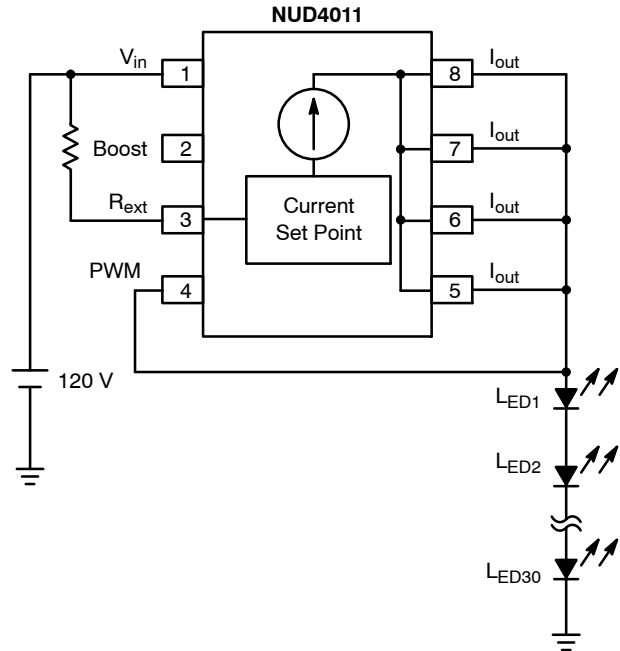

Figure 5. 120 V Application (Series LED's Array)
3. Device's pin 4 connected to the LEDs array (as shown in Figure 5).
- A Per example in Figure 5,  $V_{in} = 120 \text{ Vdc}$
4. Define  $V_{LED} @ I_{LED}$  per LED supplier's data sheet: per example in Figure 5,
A Per example in Figure 5,  $V_{in} = 120 \text{ Vac}$